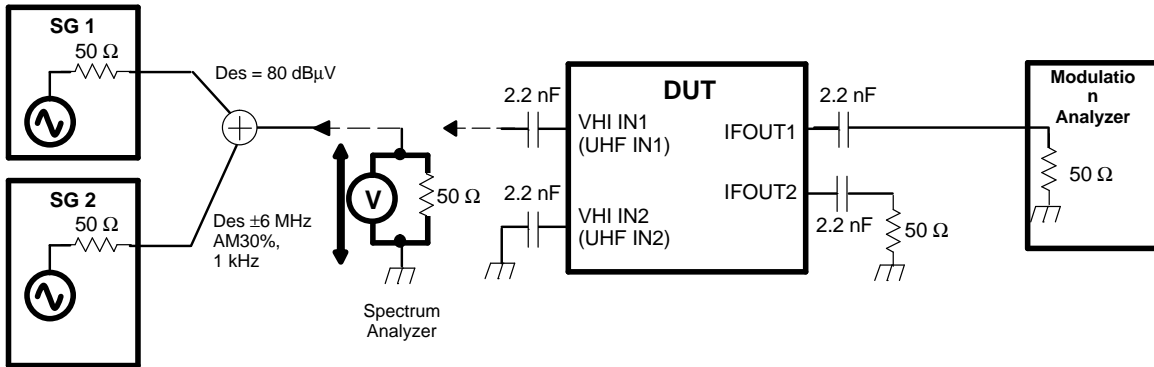

Figure 17. VHF-L 1% Cross-Modulation Distortion Measurement Circuit
(4) DES:  $V_{IN} = 80\text{ dB}\mu\text{V}$ , UNDES:  $f_{des} \pm 6\text{ MHz}$  AM 1 kHz 30%, DES/CM = S/I = 46 dB (see Figure 17).